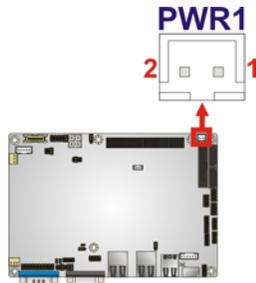

Figure 3-17: SATA Power Connector Locations
- CN Location:** See **Figure 3-17**